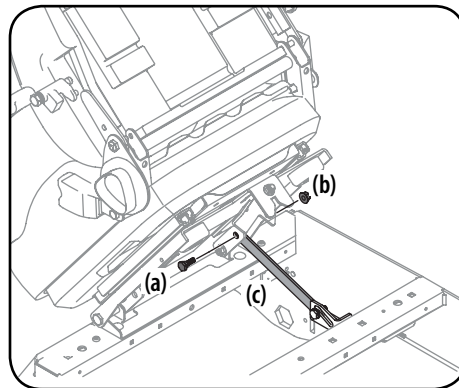

Figure 2-7
- Remove the shoulder screw (a) and flange lock nut (b) from manual bag and install the seat lockout bracket (c) as shown in Figure 2-7.